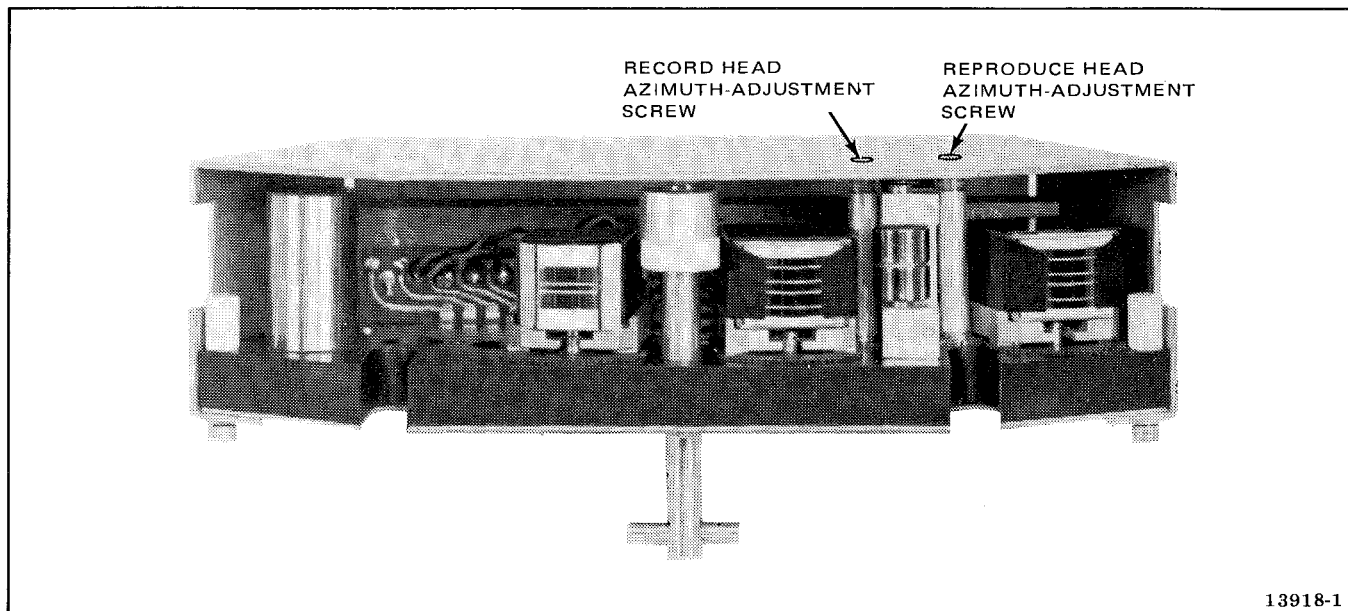

Figure 5-11. Azimuth Adjustment Screw Location
The only head adjustment required is for record and reproduce head stack azimuth. Precision mounting of the record and reproduce head stack has eliminated the need for adjusting tape wrap, height, and zenith. The azimuth adjustment is made by turning a hex socket screw accessible through the top of the head shield (Figure 5-11) which causes a tapered gear to rotate underneath the head-stack precision plate. The azimuth adjustment is adjustable over a range of ± 15 minutes of arc.
10. While reproducing the highest frequency tone on the alignment tape (7.5 kHz at 3.75 in/s or 15 kHz at 7.5, 15, and 30 in/s), adjust the reproduce head azimuth screw (Figure 5-11) for maximum output.
2. As a preliminary adjustment, turn reproduce head azimuth adjusting screw (Figure 5-11) so that reference hole in tapered gear is in front of the head-gap region.